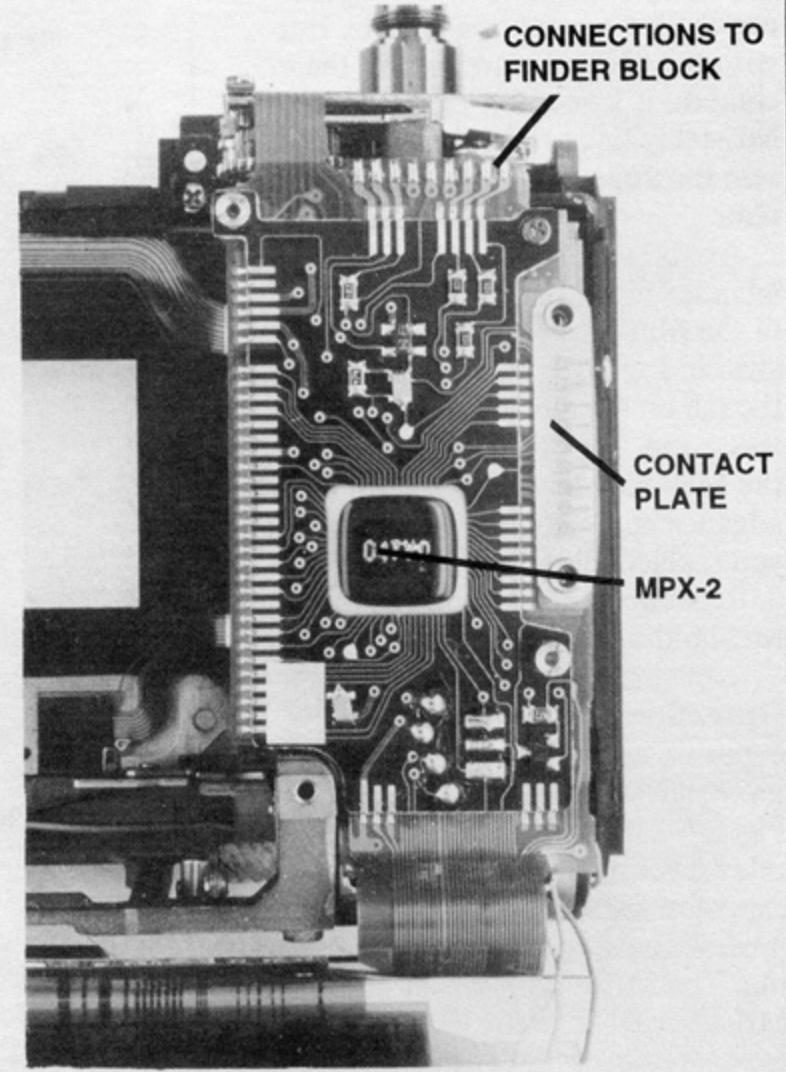

FIG. 40 FRONT OF BODY, DISPLAY FPC REMOVED
6. remove contact plate for display FPC, Fig. 40
Note: Fig. 40 shows the revised contact plate (*Revised Parts #12*). On reassembly, seat the contact plate as shown in Fig. 40—the straight-line lands up and facing the rewind end of the camera body.
6. remove screws holding hard board (2 post screws, 1 crosspoint screw), Fig. 40
8. unsolder 9 connections at top of main FPC, Fig. 40